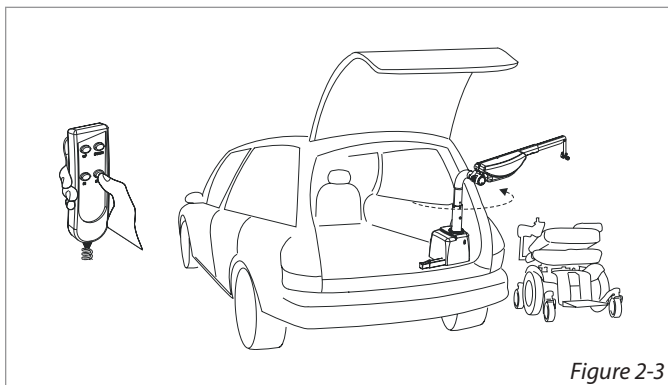

Figure 2-3
3. **Press the 'OUT' button** on the hand controller to rotate the arm outside the vehicle. *[Figure 2-3]*